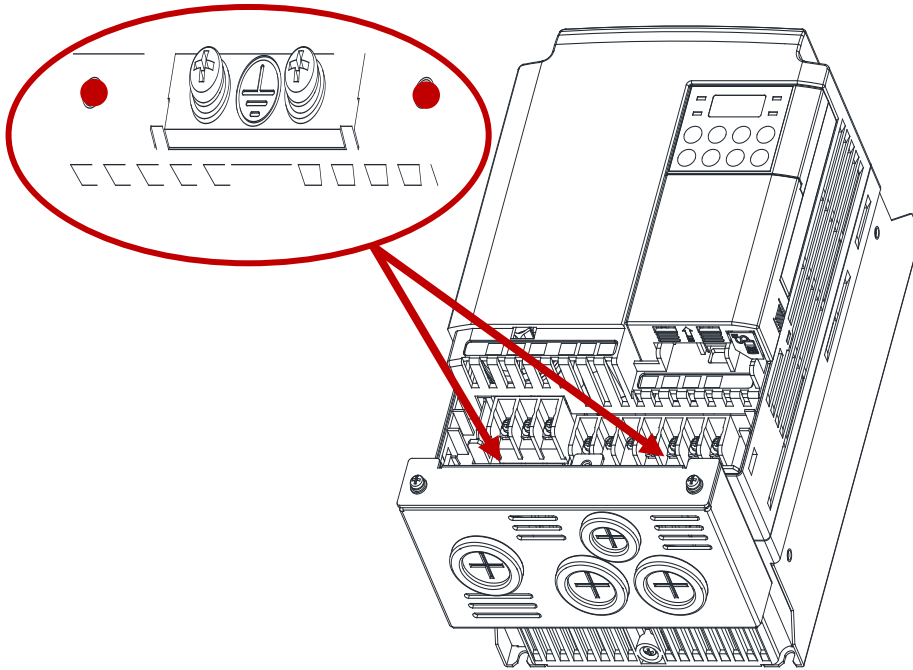

Figure 5. Install
- ② Fasten the Conduit Option to fit on the side of ground terminals of the product using the prescribed bolt as shown in the Figure 5.